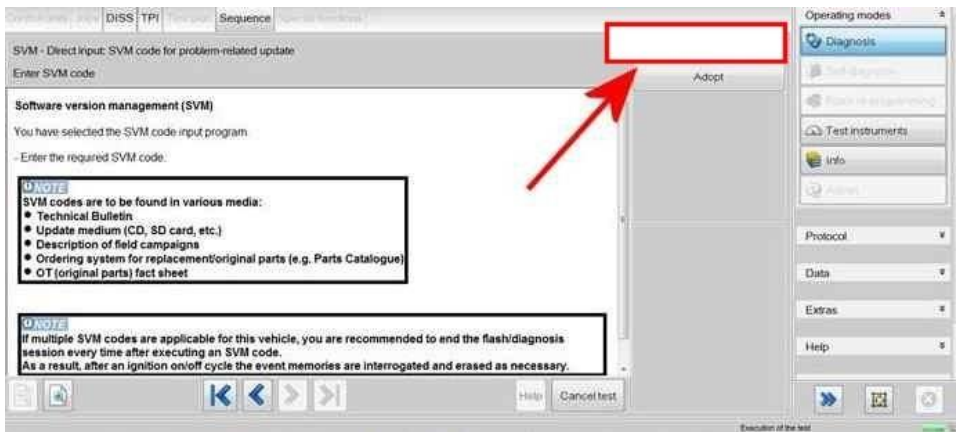

Figure 8
4) On the next screen enter SVM code 4V1BIL53 and select Adopt (Figure 8)